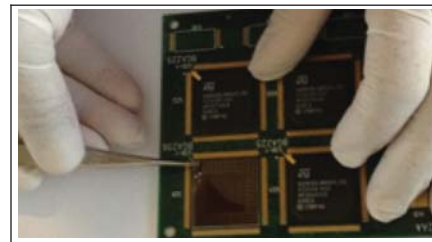

Figure 3 Align Stencil Over Land Pattern
4. Align the stencil over the land patterns, as per reference designator, by starting in one corner and working in X and Y directions until alignment is achieved (see Figure 3).